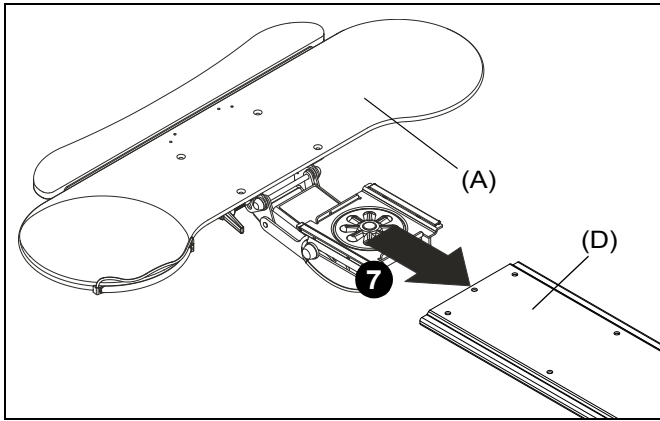

Figure 5
- Slide keyboard tray (A) into under-desk track (D). (See Figure 5)